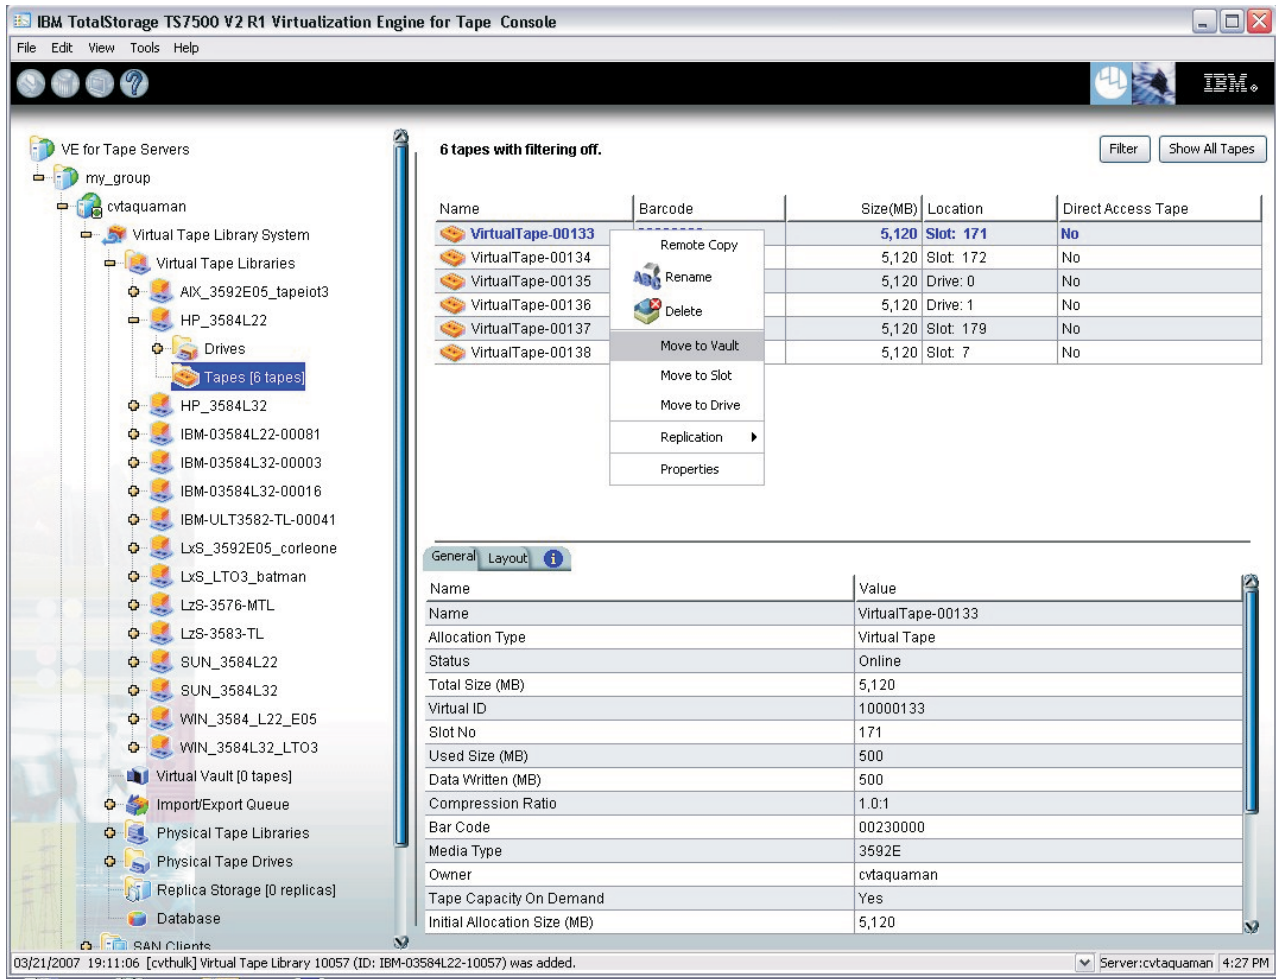

Figure 131. Moving the tape cartridge to the virtual vault
1. __ In the VE console, right-click a virtual tape cartridge and then click **Move to Vault**. See Figure 131 on page 187.